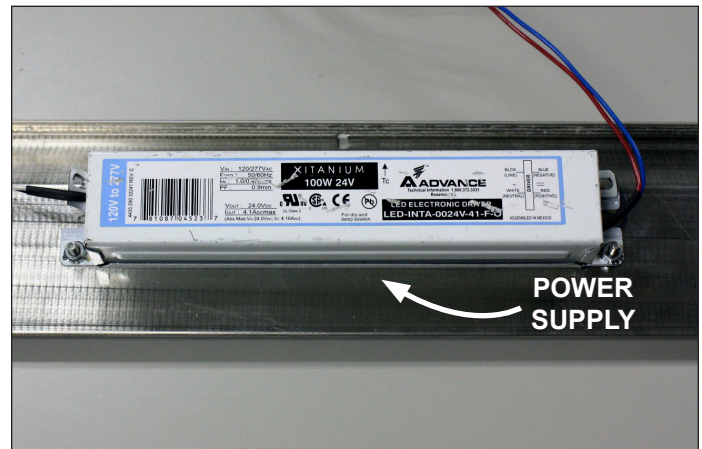

Fig. 22 Clear view of the power supply on the back side of the light reflector
3. Disengage the front edge of the light reflector by lifting it free of the front channel hinge, then carefully remove. Ballasts/power supplies will now be visible on the back-side of the reflector (Fig. 22).